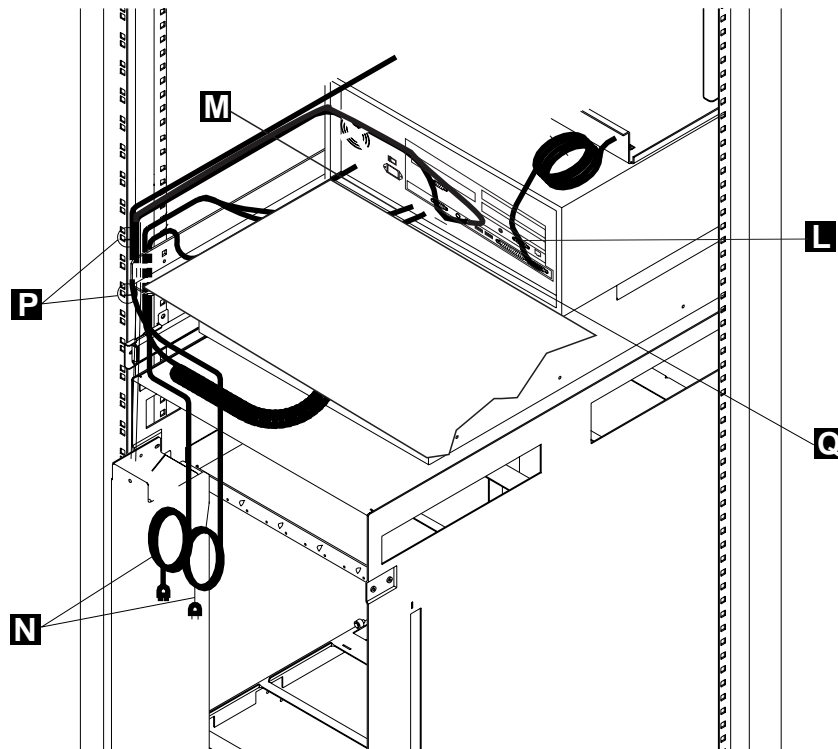
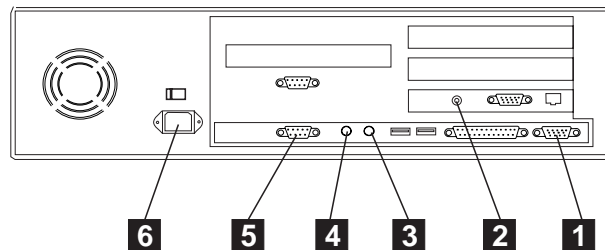

Figure 1-6. Display and Keyboard Cables Connection to the NAS
Figure 1-7. NAS Connectors
3. \_\_\_\_ Refer to: Figure 1-6 to route and locate the cables and refer to: Figure 1-7 to locate the connectors at the rear side of the NAS. Plug the cables as follows: